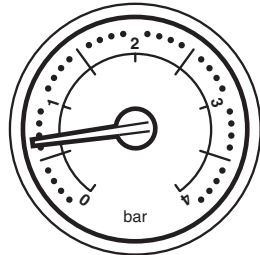

Fig. 5
2. It may be necessary to repressurise the system occasionally (Fig. 5). A filling device (the filling loop) will be fitted on the system.